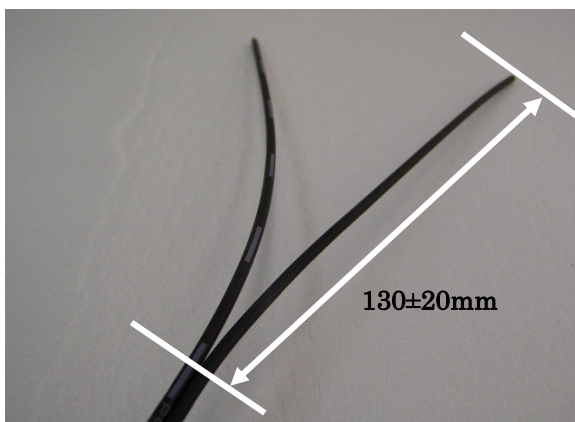

Fig.8
(2) Insert the gap at the end of the connection part of the optical fiber cord, and then by tearing the optical fiber cord, separate it into simple cord each. (Only for the duplex cord.) Separation length ----- 130 ± 20 mm (Fig.8)